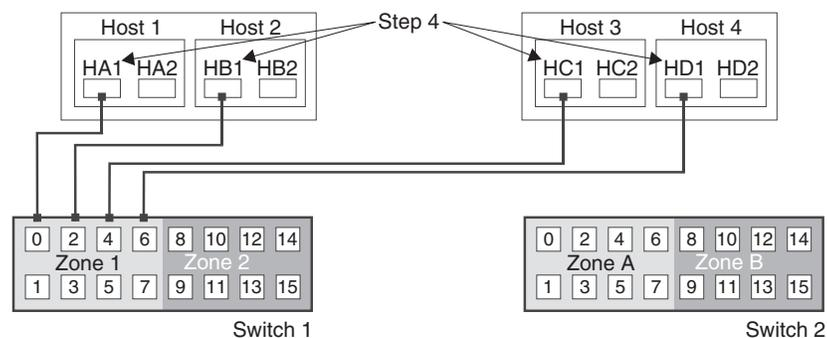

Figure 29. Primary host bus adapter (Hx1) connection to the Fibre Channel switches
- Connect the primary host bus adapter for each host (Hx1) to an available port in Zone 1 of Switch 1, as shown in Figure 29.